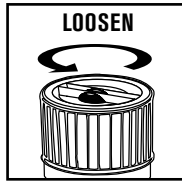

FIGURE 24
36. To remove the filter for cleaning, again hold the tank cover and turn the filter retainer counter-clockwise to loosen and remove, slide the cartridge filter off the lid cage. **FIGURE 24, 25.**